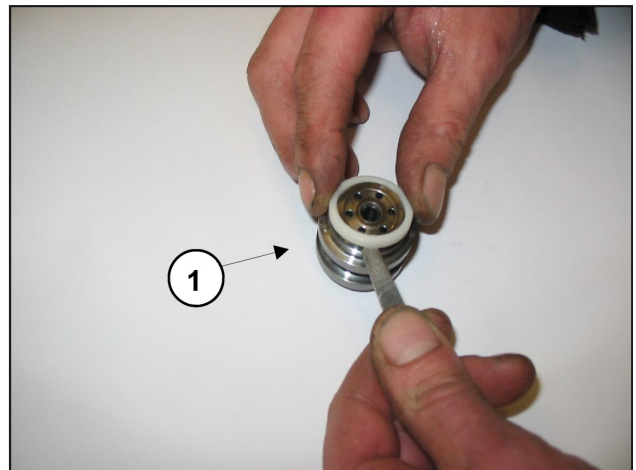

Fig. 25
- Extract the valve seats ① as shown in Fig. 25, check the various components for wear and replace them if necessary.